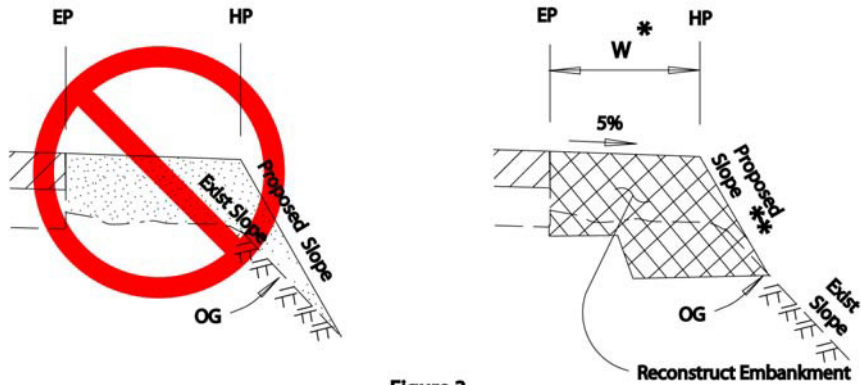

Figure 3
- a. To repair erosion or subsidence in existing slopes (See Figure 3)
- b. For side slope reconstruction (See Figure 3)
- a. For overlays greater than 0.50 ft (150 mm) in thickness (See Figure 3)
- c. The minimum HW should be 2 ft (0.6 meters3). Where the existing Hinge Width is less than 2 ft (0.6 meters), slope reconstruction or some other strategy should be used instead of Shoulder Backing (See Figure 3)
- e. Where the combined distance for HW and side slope will exceed two meters in order to comply with the slope requirement specified in this document, side slope reconstruction is recommended in lieu of Shoulder Backing (See Figure 3)
- f. The maximum thickness for shoulder backing is 0.50 ft (150 mm). Where the thickness will exceed 0.50 ft (150 mm), alternative strategies that use a combination of more stringent material and compaction requirements need to be used (See Figure 3)
- h. At the option of the District, Shoulder Backing can be placed, up to 0.50 ft (150 mm), to cap new slopes or slope reconstructions (See Figure 3)